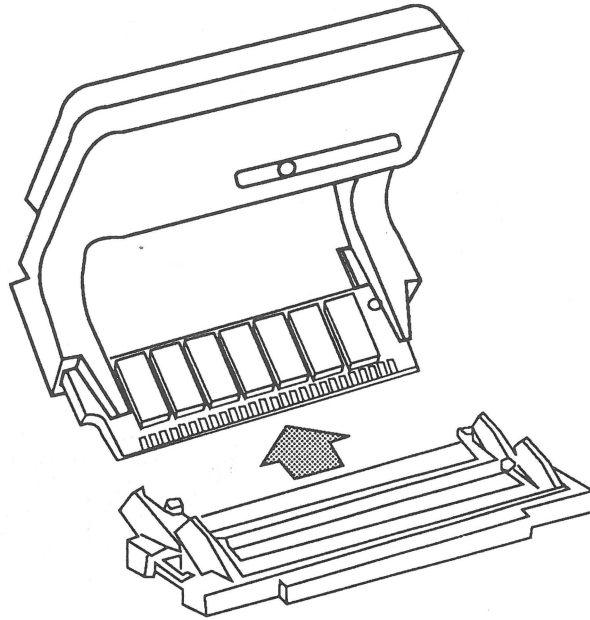

FIGURE 8
5. Remove the tool and the SIMM from the socket (Figure 8).